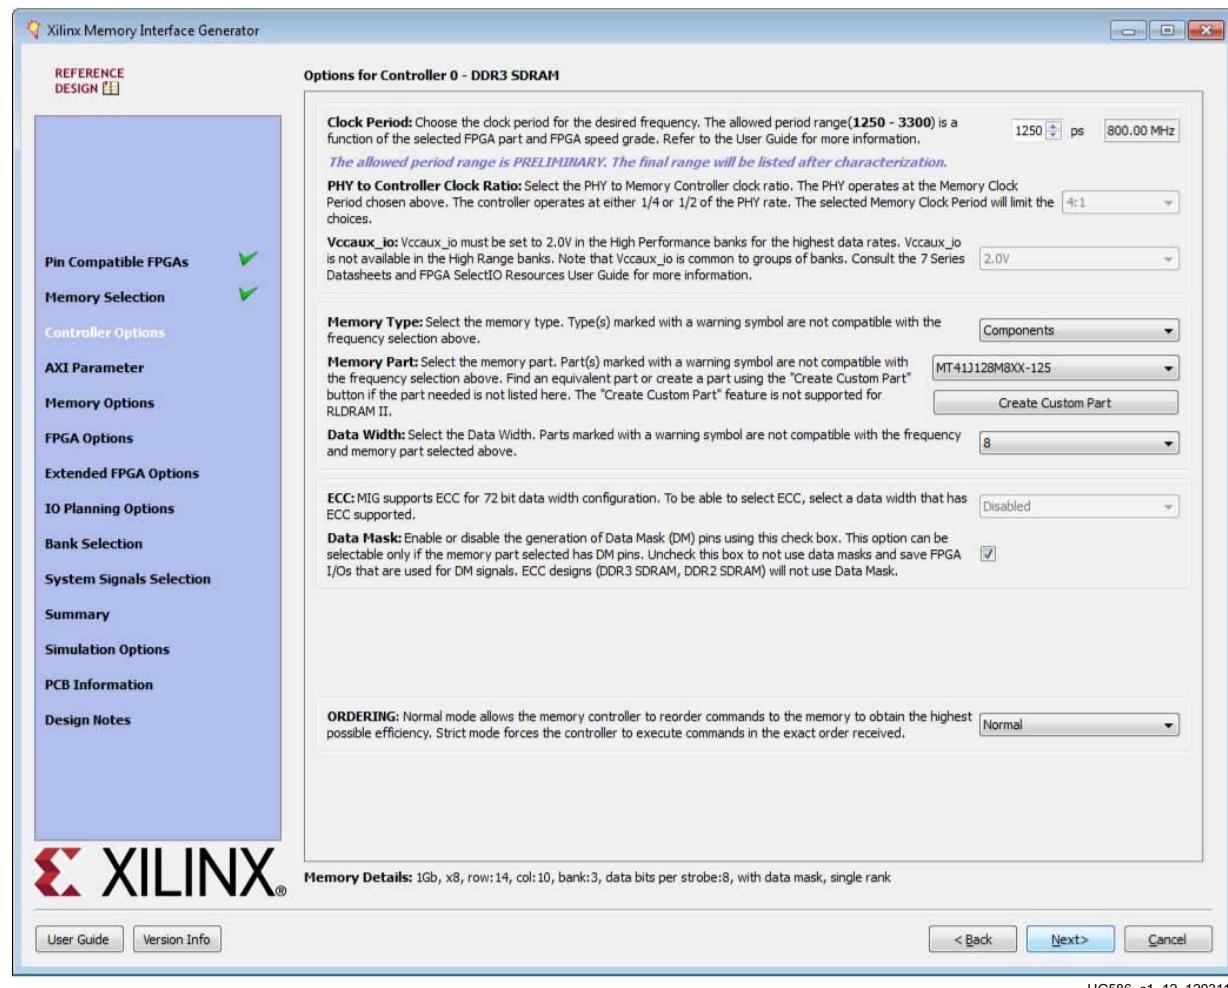

Figure 1-17: Controller Options Page
This page shows the various controller options that can be selected (Figure 1-17).
- **Memory Details** – The bottom of the Controller Options page (Figure 1-17, page 28) displays the details for the selected memory configuration (Figure 1-18).